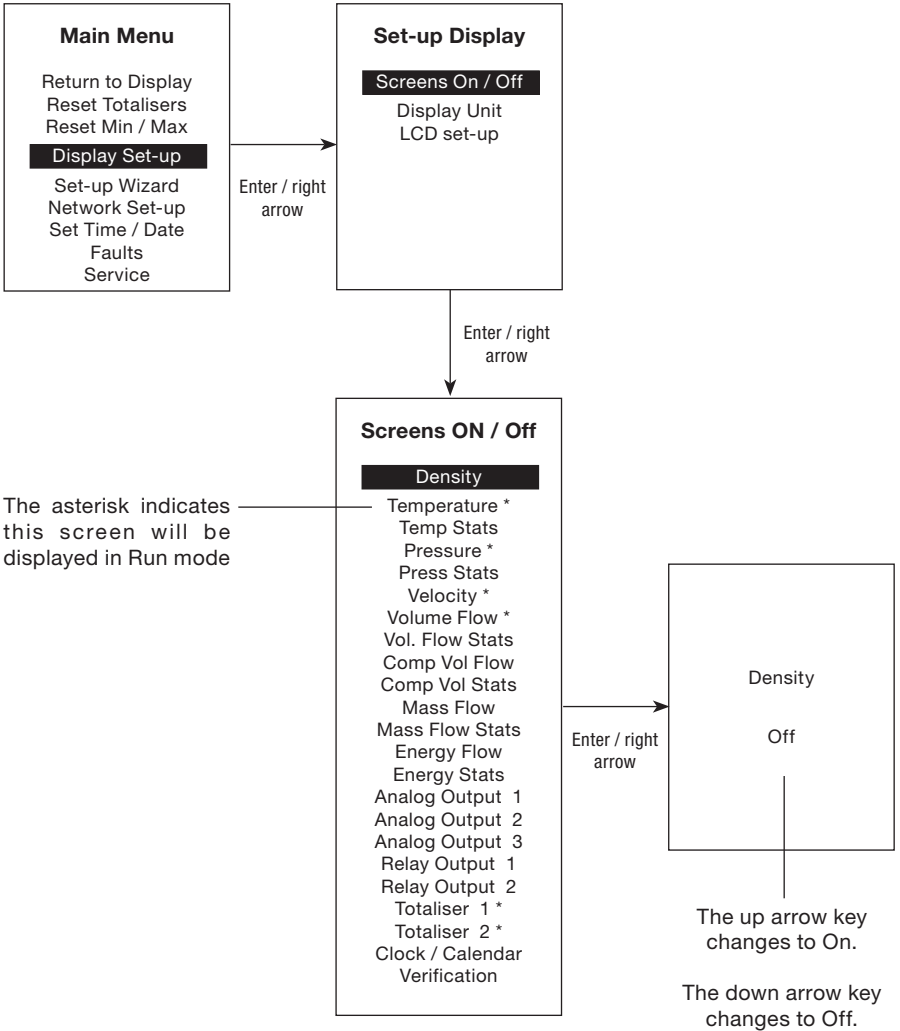

Fig. 38
5.8 Display set-up (screen selection menu) - Figure 38